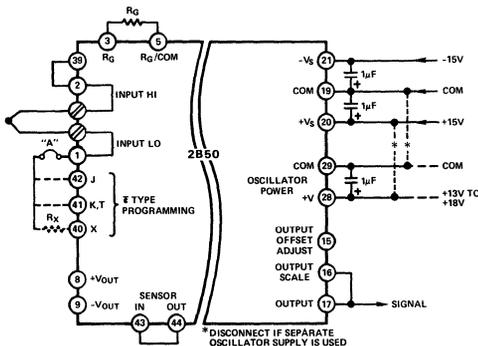

Figure 2. Basic 2B50 Application
The connections shown in Figure 2 are common to most applications using the 2B50, and, in many cases, will be all that is required.
Two sets of parallel thermocouple input connections are provided. The thermocouple input may be connected by screw terminals (input +, Input -) or to terminal Pins 1 (-) and 2 (+) in cases where thermocouples are to be remotely terminated. The following sections describe a basic thermocouple application, as well as detail some optional connections to enhance performance in more demanding applications. Jumper A (Figure 2) is used to disconnect cold junction compensation circuitry during offset adjustments.
The gain of the 2B50 is set by a user-supplied resistor (R_G) connected as shown in Figure 2. Gain will normally be selected so that the maximum output of the signal source will result in a plus full scale output swing. The resistor value required is determined by the equation: $R_G = 200k\Omega / (G-1)$.
2. Disconnect cold junction compensation circuitry by removing Jumper "A" (Figure 2).